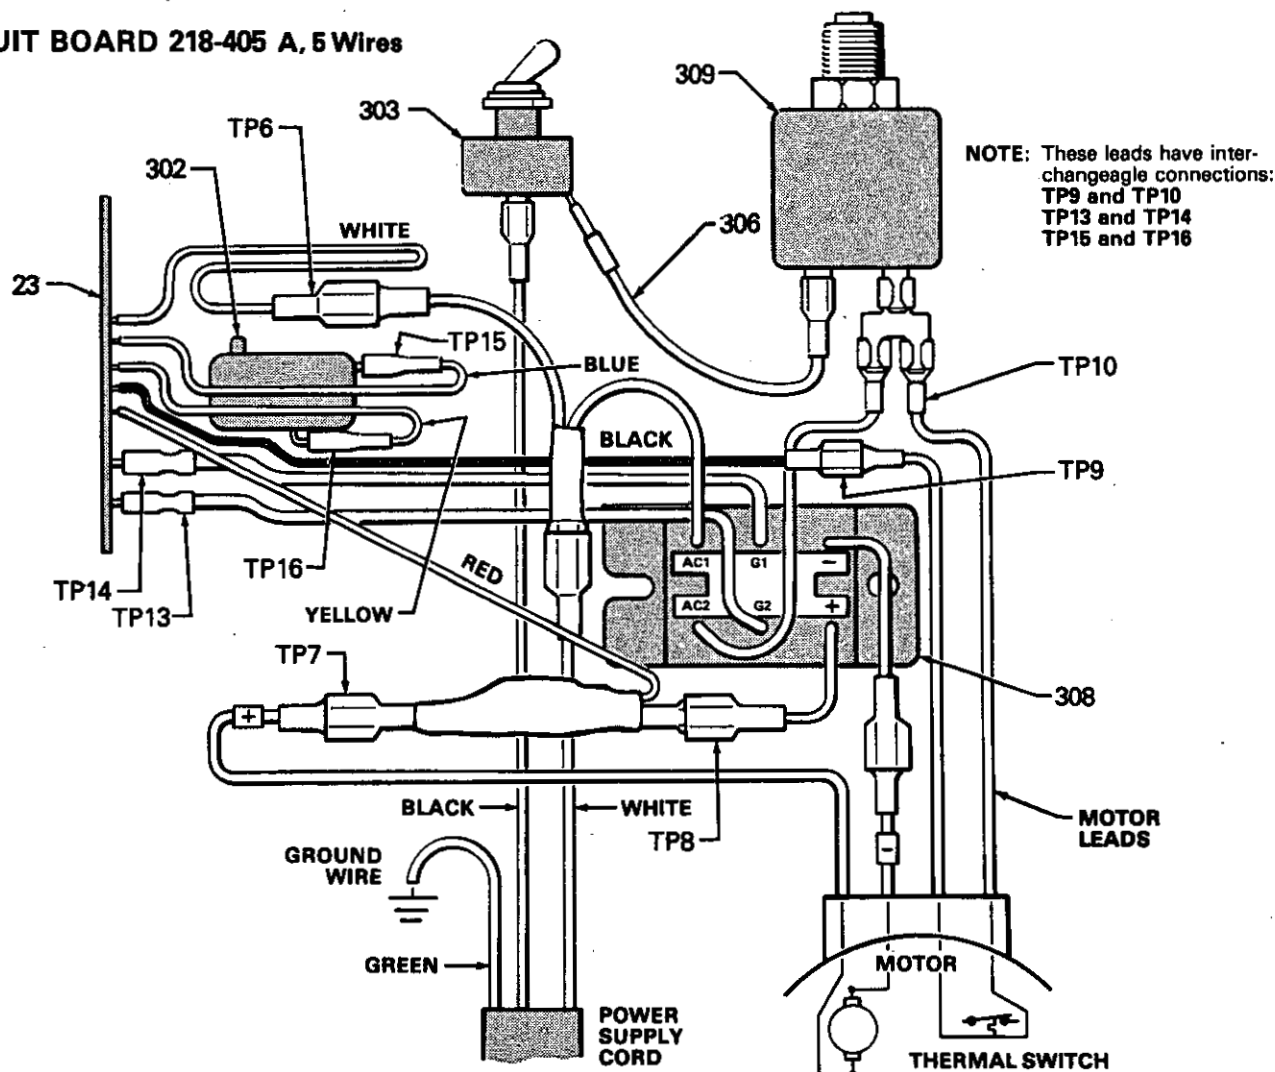

Fig 19
3. Disconnect **ALL** wires from the board, including the two heavy black wires. Refer to Fig 19. Pay close attention to where connections are made.
4. To remove the board from the box, pull out the black plastic-tipped pin (330). Push the **bottom** of the circuit board toward the wall of the box and carefully slide the board out.
5. Install the board in the box at the same angle as it was removed. Reconnect the wires as indicated in Fig 19. Ease the pin (330) into the retainer.
1. Remove the motor shield (14) and screws (64).
2. Disconnect the pump outlet hose (47) from the displacement pump outlet nipple (46).
3. Remove the screws (15) and pressure control cover (36) and disconnect the four motor leads. See Fig 19, page 25.
4. Use an adjustable wrench to loosen the conduit connector nut (345) at the pressure control assembly (43).
5. Swing the conduit (22) away from the conduit elbow (345).
6. Remove the conduit seal (5) from around the wires in the pressure control. Pull the motor leads through the elbow, one at a time.